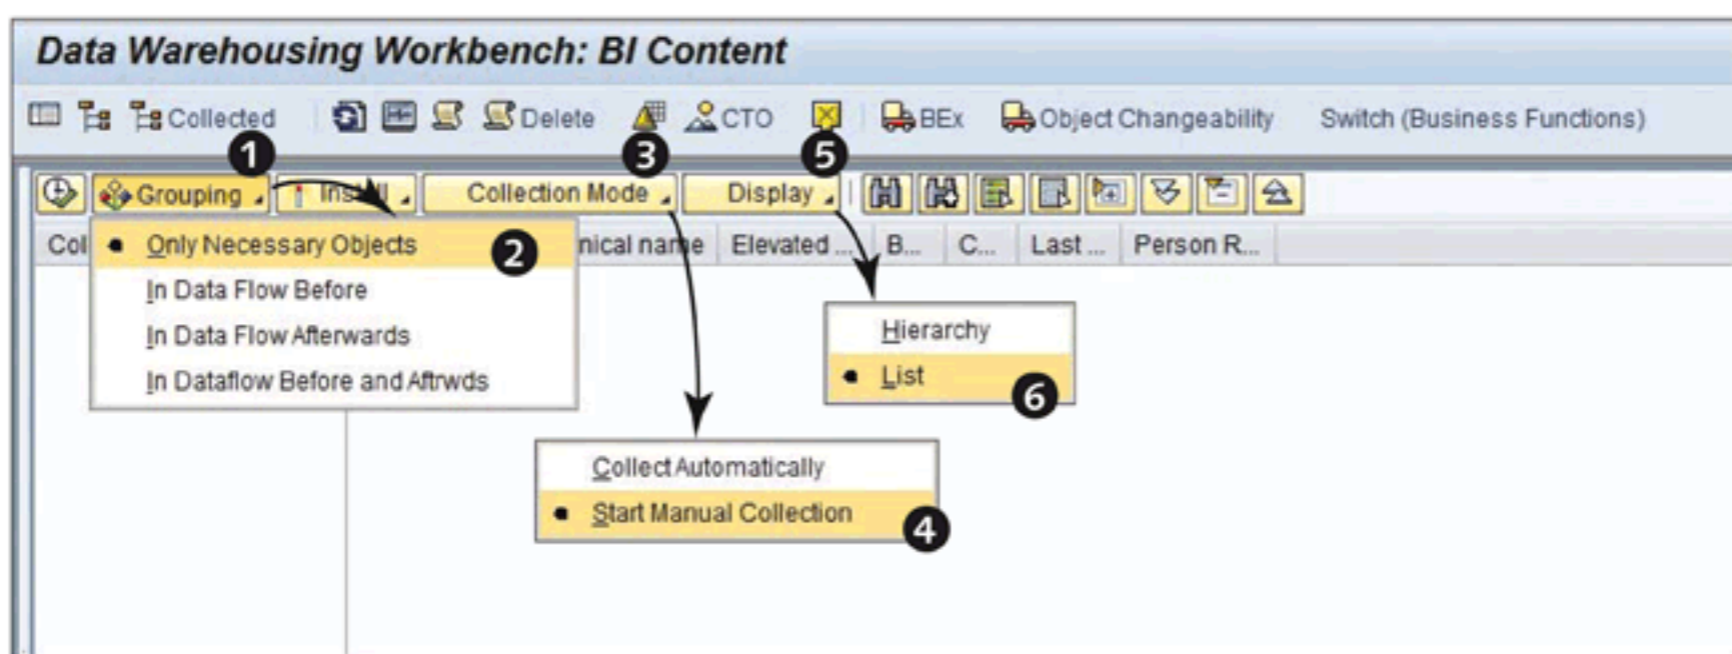

Figure 2.27 Configuring Various Options Before Activating Business Content
The most important option, which can significantly affect the number of objects that can be activated by the system, is GROUPING. Open the GROUPING menu, as shown in ① of Figure 2.27, to see the four options available (②):
This option activates the minimum number of objects required to activate the selected object. Thus, if you've selected one InfoObject A, and InfoObjects B and C are attributes of InfoObject A, the system activates all three objects. For this example, we've selected this option, as shown in ② of Figure 2.27.
To activate any object, you must first select it from the list and drag and drop it over the COLLECTED OBJECTS area. There are two collection modes, as shown in 4 of Figure 2.27:
() to start the collection. Because we're selecting single objects in our example, either option will work. We've selected START MANUAL COLLECTION, as shown in ④ of Figure 2.27.
The DISPLAY option (⑤ of Figure 2.27) shows the collected objects in two different ways: HIERARCHY, in which collected objects are shown in a hierarchical fashion; and LIST, in which collected objects are shown in list fashion. We've selected LIST, as shown in ⑥ of Figure 2.27.